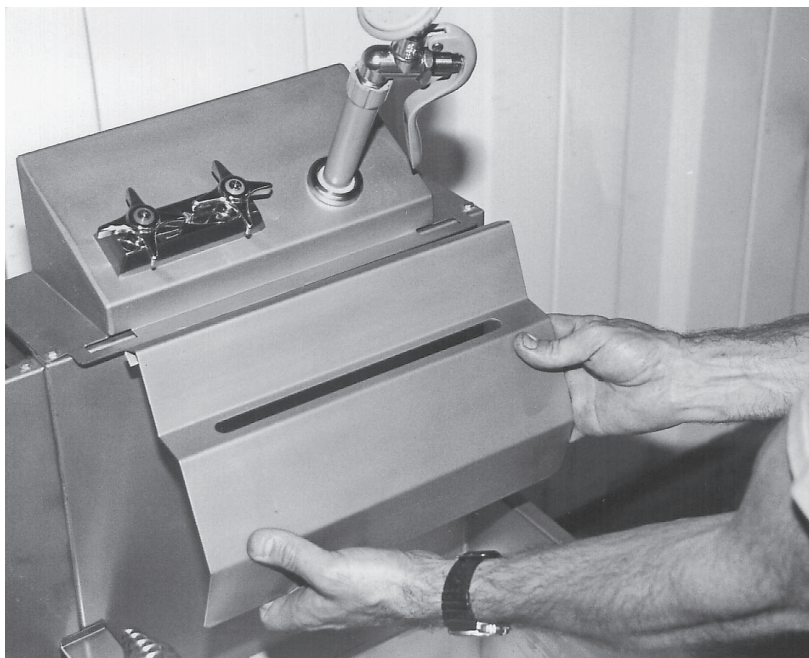

Fig. 50
1. Turn main water supply of the rinse station off and remove basket and basket hanger. (Fig. 50)